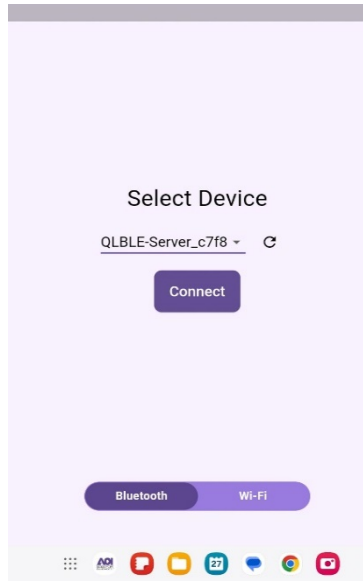

Figure A- 5: Device Connection
- Insert the QuantumLink Local Wireless Interface in the Quantum18 1.8 GHz MB Amplifier module as shown above see Figure A-5.